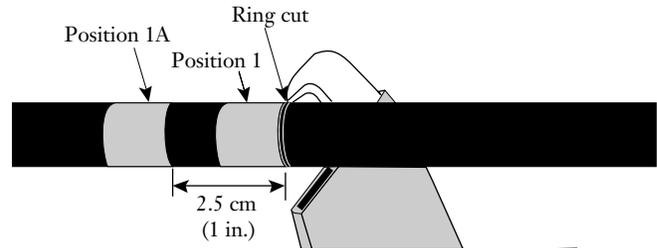

Figure 4
5.1 Using a hook blade knife, make a ring cut through the outer sheath of the cable at the tape mark at "Position 1." Use care to avoid damaging the inner sheath (Figure 4).